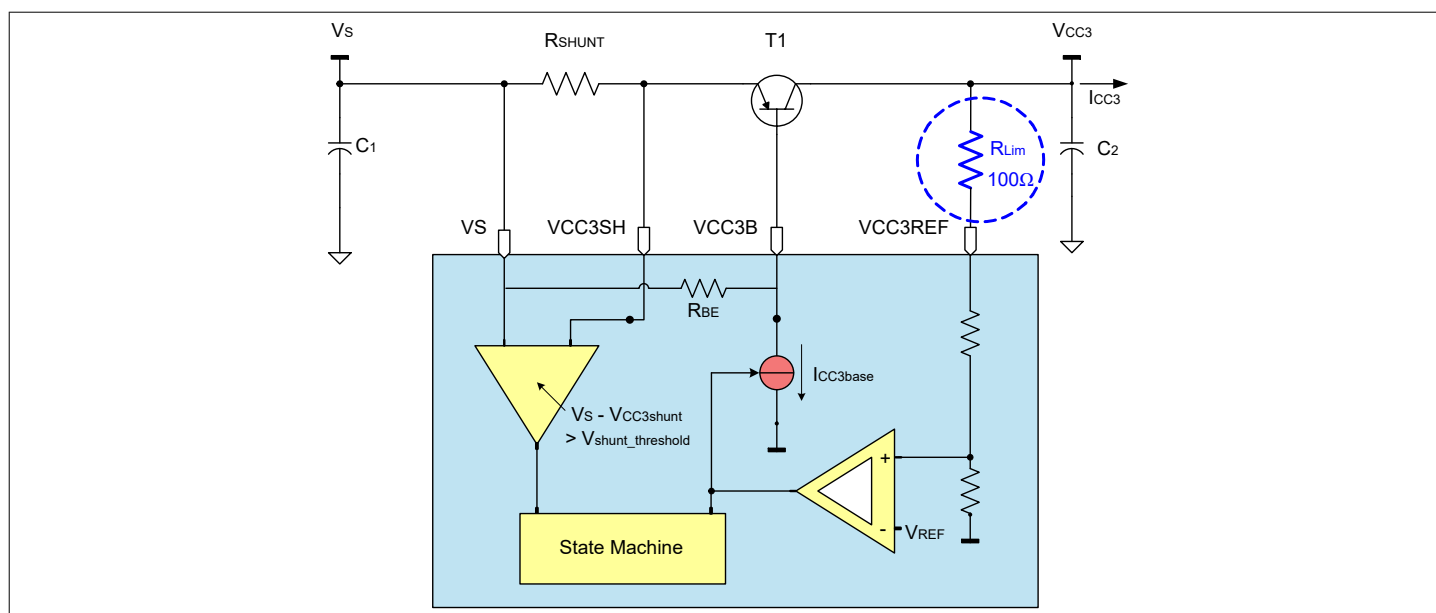

Figure 24 Protecting the VCC3 against inductive short circuits when configured as an independent voltage regulator for off-board supply
3. If the VCC3 output voltage is supplying external off-board loads, the application must consider the series resonance circuit built by cable inductance and decoupling capacitor at the load. Sufficient damping must be provided (e.g. a 100Ohm resistor between the PNP collector and VCC3REF with 10uF capacitor on collector see also Figure 24).